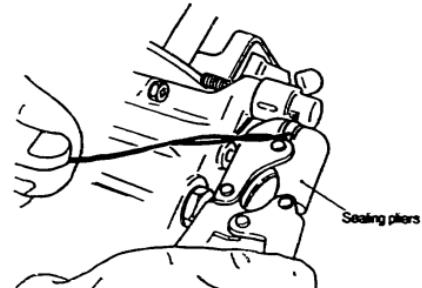

Fig. 10 Sealing the cap
5. Ensure that the lead seal is not loose and then crush the lead seal using sealing pliers. (Fig. 10)